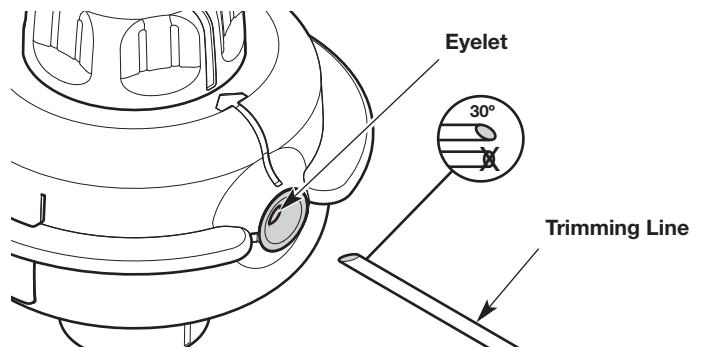

Fig. 19
- Cut two 6-foot (1.8 m) lengths of new trimming line. Cut one end of each line at a 30 degree angle (Fig. 19).
- Insert one of the lines into an eyelet (Fig. 19).
- Insert the end that was cut at a 30 degree angle (Fig. 19).